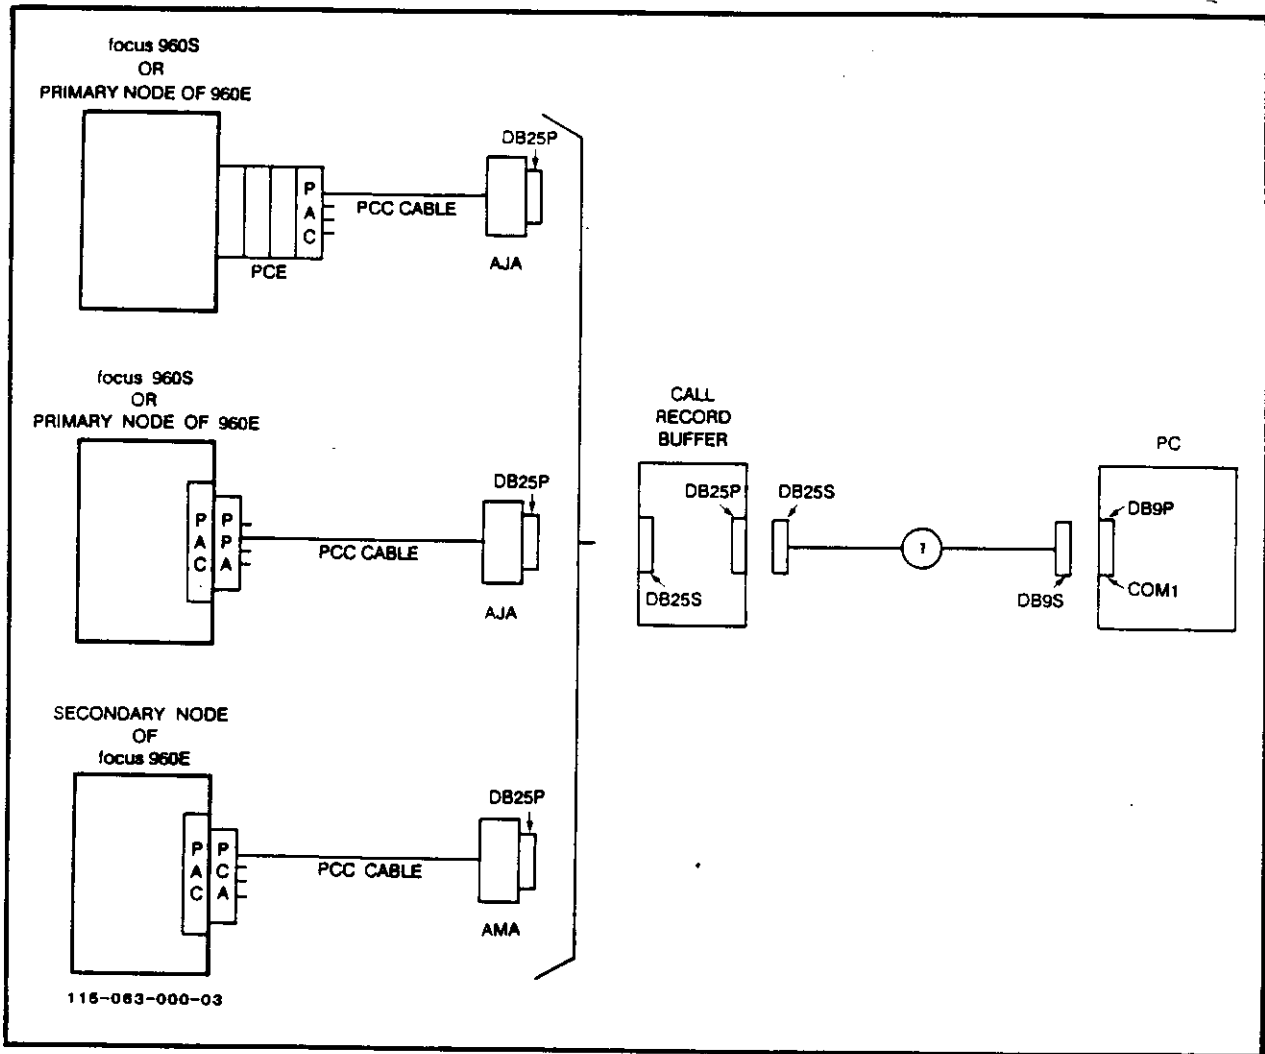

Figure 3-13. Local PBX to PC SMDR Link with Call Record Buffer
**9.01** If you have a local cable kit and you have a call record buffer, refer to Figure 3-13 and follow these steps.
2. Plug the other end into either the AJA or AMA included with the cable kit. Refer to Figure 3-13 to determine the proper adapter to be used.